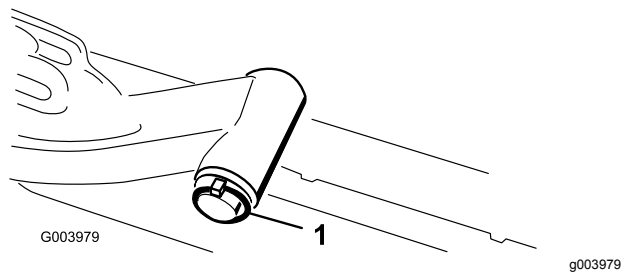

Figure 12
- A. Remove the lynch pin and washer securing the lift-arm-pivot shaft to the lift arm and slide the lift-arm-pivot shaft out of the lift arm (Figure 12).
- C. Insert the lift-arm shaft into the lift arm and secure it with the washer and lynch pin (Figure 12).